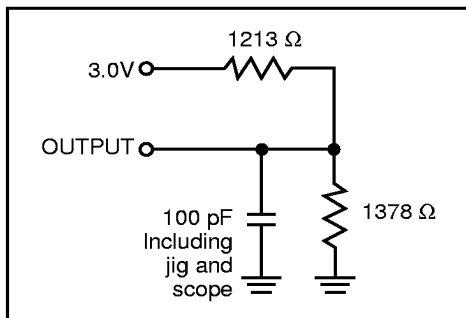

Figure 1. (-70 ns)
1. Test conditions assume signal transition times of 5 ns or less, timing reference levels of 1.5V, input pulse levels of 0.4V to 2.2V and output loading specified in Figure 1 and 2.
Output Load	See Figures 1 and 2
1. Test conditions assume signal transition times of 5 ns or less, timing reference levels of 1.5V, input pulse levels of 0.4V to 2.2V and output loading specified in Figure 1.